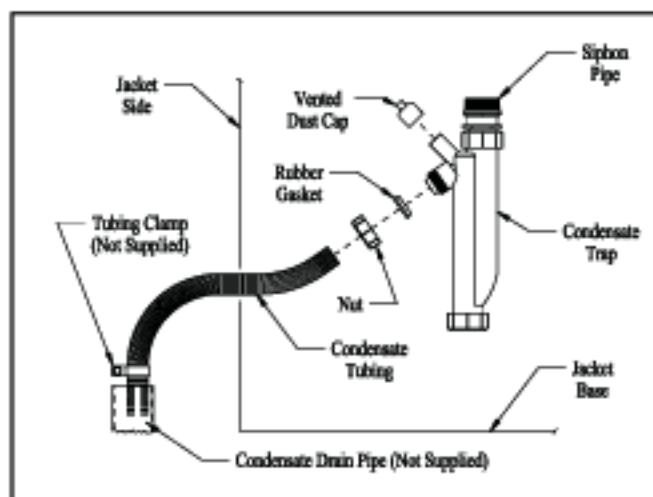

FIGURE 6.11: CONDENSATE PIPING ARRANGEMENT
- 8) Condensate Drain Line - All condensate which forms in the boiler or vent system collects in the sump under the heat exchanger and leaves the boiler through the condensate trap. This trap allows condensate to drain from the sump while retaining flue gases in the boiler. A length of drain hose is supplied with the boiler and is connected to the trap as shown in Figure 6.11. This hose may be routed through the back of the boiler or to either side through the knockouts provided. Route this hose to a drain or other suitable point for disposal. Note the following when disposing of the condensate:
- a) If the condensate drain line must be extended, construct the extension from PVC or CPVC pipe. Insert the hose provided with the boiler into the end of the extension as shown in Figure 6.11.
- f) Do not attempt to move the trap from the location shown in Figure 6.11. Do not attempt to substitute another trap for the one provided with the boiler.
- g) The vent shown in Figure 6.11 must be left open for the trap to work properly.